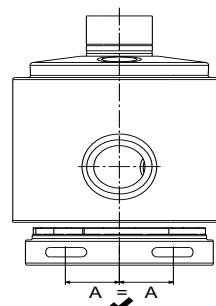

**Fig. 14** Correct fitting of washers
8. Fit impeller (pos. 49), chamber with holes (pos. 4d) and spacing pipe (pos. 64).
9. Fit impeller (pos. 49), chamber (pos. 4) and spacing pipe (pos. 64).
10. Fit impeller (pos. 49), chamber (pos. 4a), short spacing pipe (pos. 64a) and bearing ring (pos. 47a). See section 8. *Order of assembly for chambers and impellers*.
11. Fit impeller (pos. 49), clamp (pos. 64c), washers (pos. 66) and nut (pos. 67). See fig. 14.